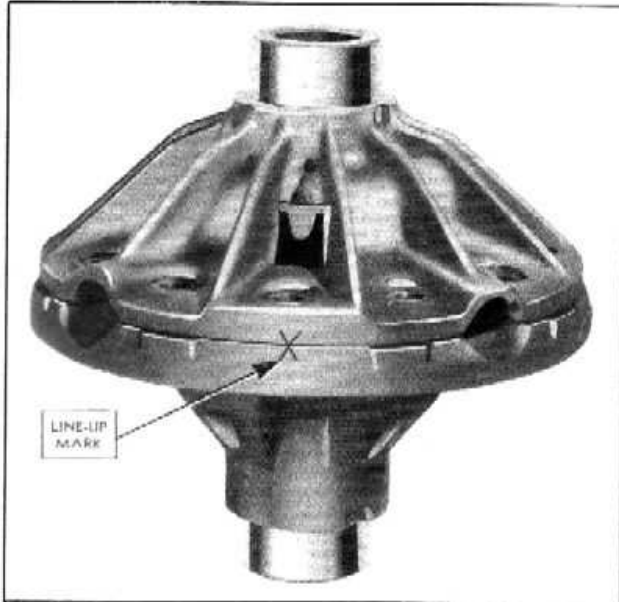

Fig. 26—Differential Case Marks
To disassemble the differential, check and make sure the case halves are marked (Fig. 26) so it may be assembled in the same position. Remove the twelve $\frac{1}{2}$ " bolts from the case. Lift off the case cover and remove the differential gears and pinions.
2. Assemble the right side of the case to the left side, being sure to line up the marks on the case halves, Fig. 26.